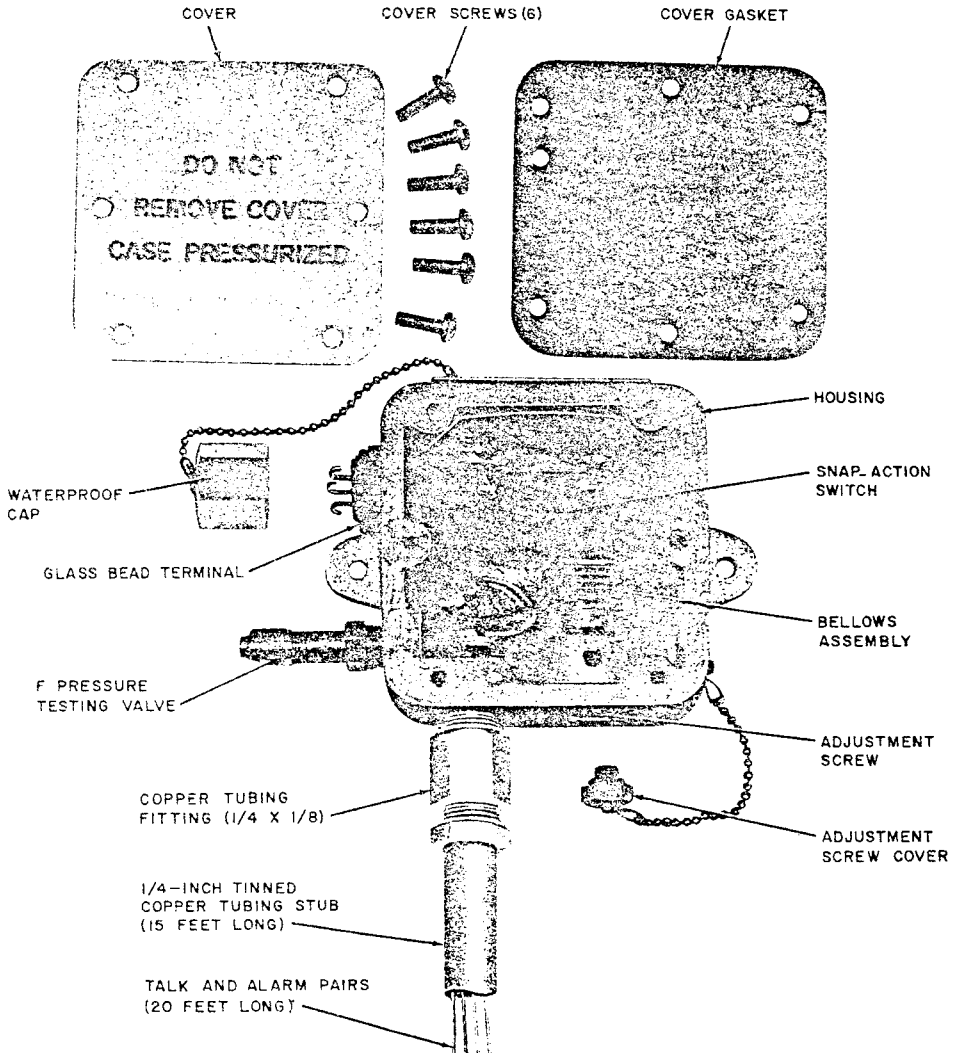

Fig. 1—P Pressure Contactor—Cover Removed
2.01 The P pressure contactor (Fig. 1 and 2) is a nontemperature-compensated pressure monitoring device having both talk and alarm facilities and incorporates a bellows-operated, snap-action switch assembly. The bellows is evacuated and sealed.
2.02 The operating point, which is preset at 6 pounds per square inch gauge (psig), may be externally adjusted by turning the adjustment screw located on the underside of the contactor case (Fig. 1). Adjustments cover a pressure range of 0 to 7.0 psig by changing the pressure required to contact the bellows for switch operation.
3.03 When required for underground installations, the P contactor (Fig. 1) and the associated materials should be installed as follows: